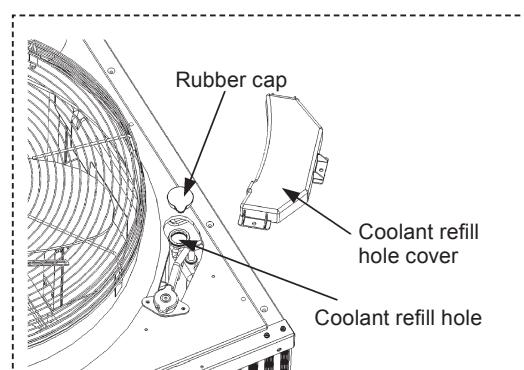

Figure 3 Remove the rubber cap of the reserve tank
- a) Remove the coolant replenishment port cover on the top panel, and then remove the rubber cap of the reserve tank. (Figure 3)